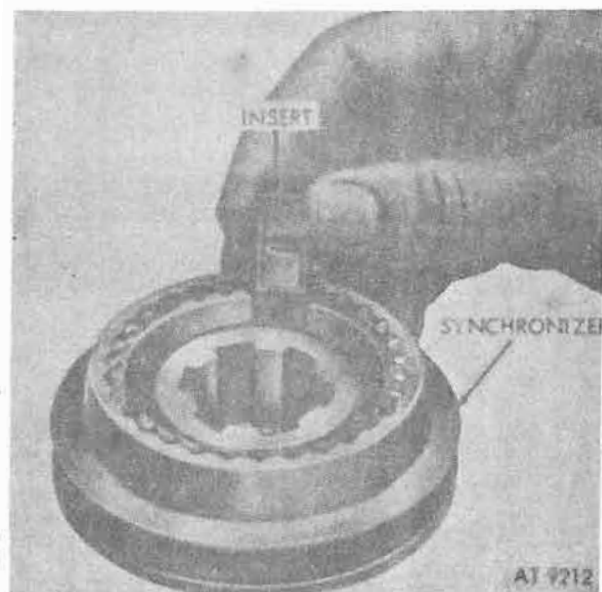

Figure 8-79. Synchronizer inserts.
b. Remove three inserts from synchronizer assembly (fig. 8-79).